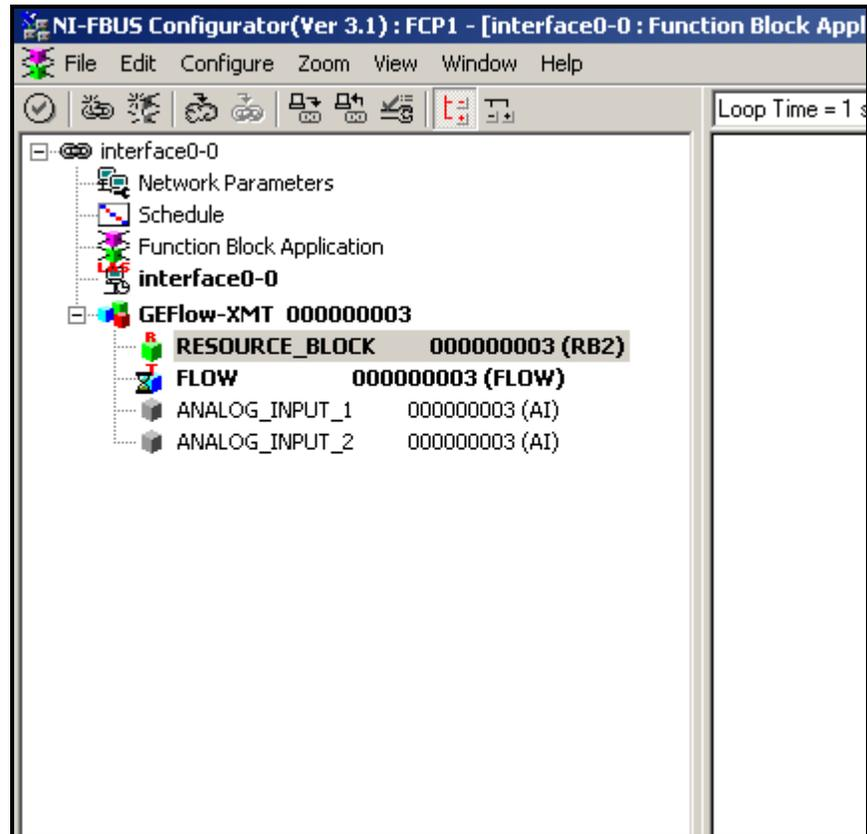

Figure 2: Configuration Utility Setup Example
Figure 2 below shows the Configuration Utility with an **XMT868** flow meter on the network (GE Flow-XMT).
1. Double click on the AI block for which you wish to set the units (ANALOG_INPUT_1 or ANALOG_INPUT_2 in the tree under GEFlow-XMT; see Figure 2 on page 3).
1. Double click on the FLOW transducer block (in the tree under GEFLOW-XMT; see Figure 2 on page 3).